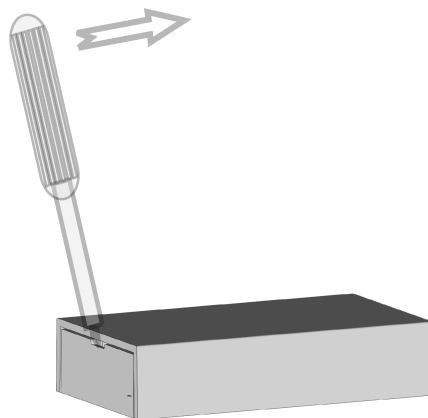

Figure 1: Open the housing
- Open the housing by sliding it apart. If necessary, use a narrow slot-headed screwdriver (Figure 1).